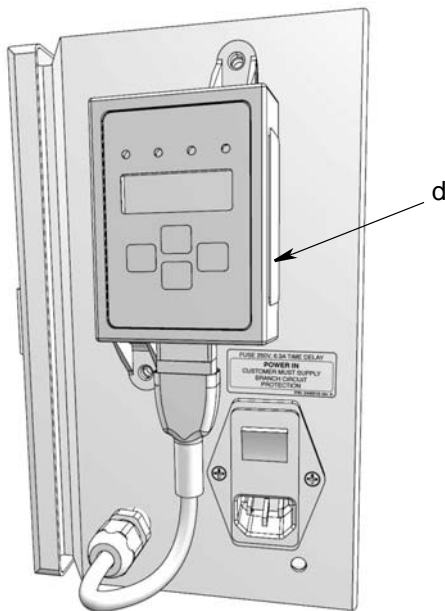

FIG. 6
1. Align the GLC2200 Controller with the pre-drilled mounting holes on the Enclosure (1) or alternate mounting surface.
NOTE: GLC220 installation on the Enclosure (1) is shown in FIG. 6.
3. Plug the large connector end (d) of the GLC2200 wiring harness into the GLC2200 as shown in FIG. 6. The connector can only be plugged into the GLC2200 one way. The clip should be facing to the back (or down) when the connector is correctly oriented.